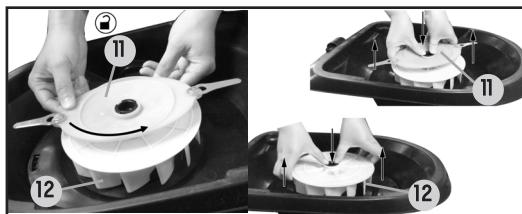

Fig. 8
- 2 To remove the cutting head (11) and fan (12) (Fig. 8), hold the fan (12) firmly and twist the cutting head (11) counterclockwise as illustrated. Hold the cutting head (11) in the centre and remove as illustrated. Hold the fan (12) in the centre and remove as illustrated. Inspect for damage and clean as necessary before replacing the fan and the cutting head.